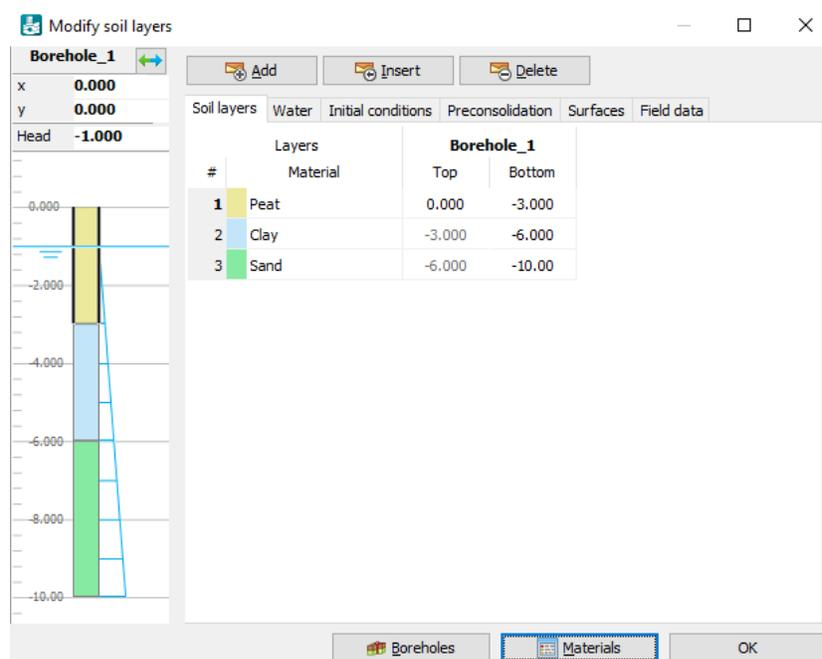

Figure 87: Soil layer distribution
2. Define three soil layers as shown in Figure 87 (on page 111).
2. Create soil material data sets according to Table 16 (on page 112) and assign them to the corresponding layers in the borehole (Figure 87 (on page 111)).